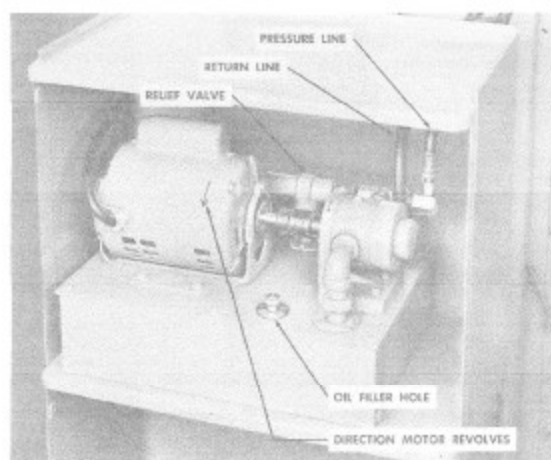
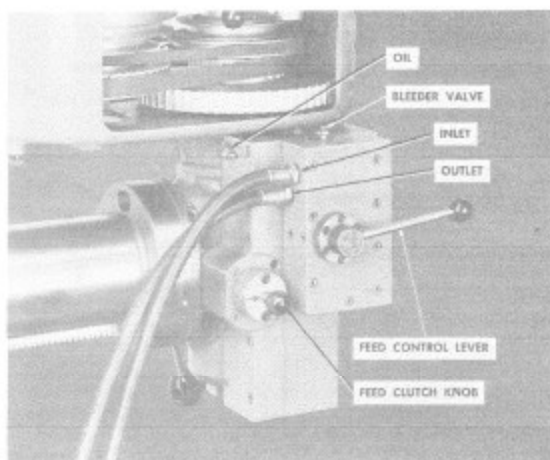

Fig. 24. Hydraulic pump for operating power quill feed.
Fig. 25. Back view of power quill feed.
The hydraulic power quill feed consists of the hydraulic pump assembly (Fig. 24) and the hydraulic feed mechanism (Fig. 25). With this equipment,
An automatic by-pass relief valve (Fig. 24) limits the maximum hydraulic pressure produced by the pump to 300 lbs. per square inch. This permits the quill feed to stop automatically when maximum travel is reached. The quill feed positive depth stop may be set in any position and used to regulate the length of power quill feed. There is no danger of damaging the hydraulic power quill feed mechanism or the pump.
- D. Depress air bleeder valve, Fig. 25. Cover valve with cloth because depressing bleeder valve may result in a strong spray of oil from trapped air. Repeat depression of valve several times, if necessary.
lever. Place rapid power feed control lever in "ON" position, push up on power quill feed lever and allow time for piston to reach top of cylinder, or until power feed sliding clutch knob (Fig. 25) stops turning.
The hydraulic power quill feed is disengaged by pulling the power feed sliding clutch knob (Fig. 25) out. To free the clutch so the knob can be pulled out easily, push the power feed lever alternately up and down.
The motor which drives the hydraulic power feed mechanism should be lubricated according to the motor manufacturer's recommendations. An oil hole at the top of the power feed mechanism (Fig. 25) is provided for lubricating the rack. One or two drops of machine oil each day is sufficient.